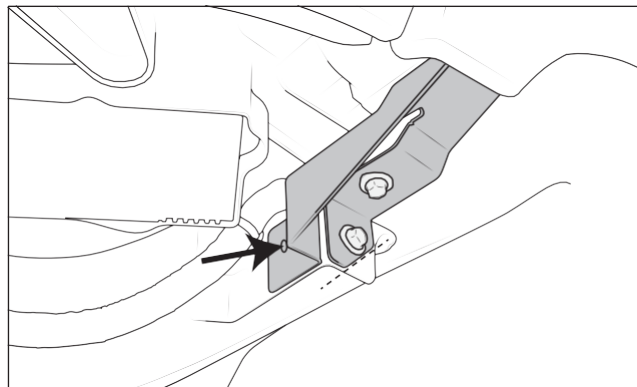

Figure 19
2. Mark cut line and additional hole location on the factory mount. Remove AEV bracket and trim factory mount using an air saw or cut-off wheel. Drill additional hole location out to 3/8". Prep bare metal with a rust inhibitor (fig. 19).
- C. Bend the rod as shown (fig. 26). Keep in mind that the flat side of the tab will be bolted to the hole location drilled in figure 19.